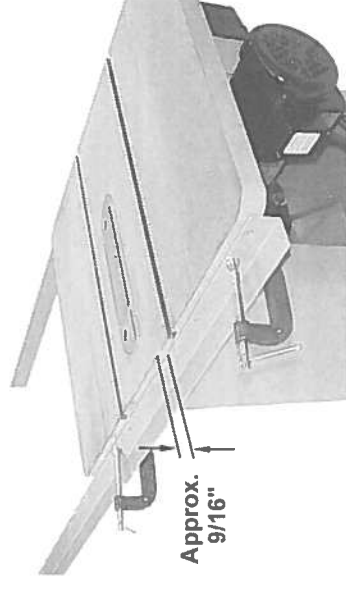

Figure 27
2. Position the *back rail* approximately 9/16" below the surface of the table top, with the ends even with those of the *front rail* (Figure 27). Hold the *back rail* to the saw with clamps.